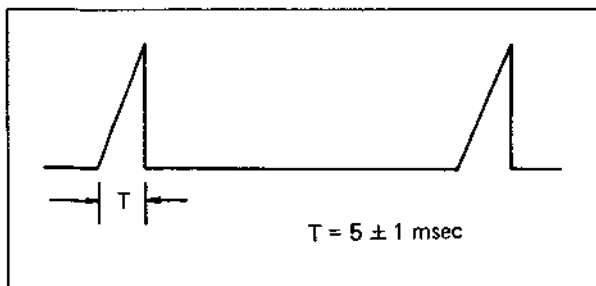

Fig. 5-9 REC monostable
3. Adjust R142 (REC MM) of the SERVO board to obtain a pulse width of 5 ± 1 msec (Fig. 5-9).